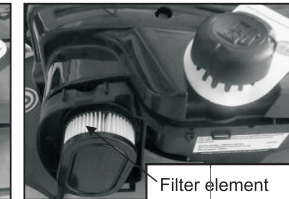

Fig. 16B
3. Wash foam filter in soapy water. (Fig. 16B) **DO NOT USE GASOLINE!**